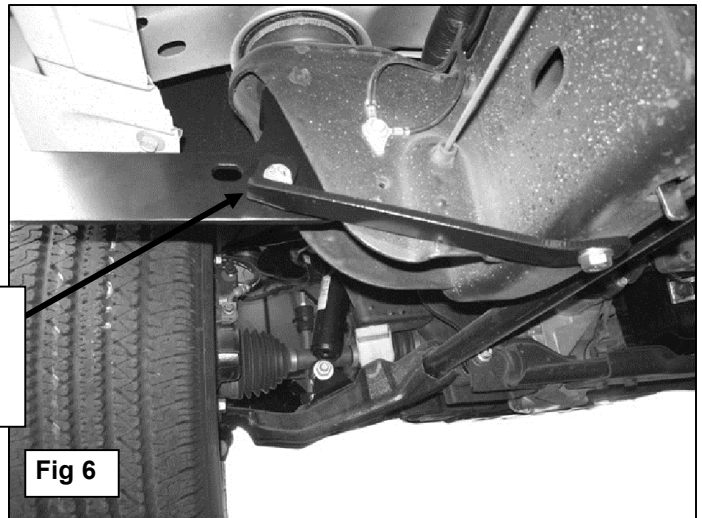

Fig 6
Note that the Front Support Bracket will not reach up to the Mounting Bracket, (Figure 4). Tighten the Support Bracket to the Nut Plate in the frame. Carefully push up on the Support Bracket until it reaches the inside hole in the Mounting Bracket, (Figure 5). Bolt the Support Bracket to the hole in the Mounting Bracket with (1) 10mm x 30mm Hex Bolt, (2) 10mm Flat Washers, (1) 10mm Lock Washer and (1) 10mm Hex Nut, (Figure 6). Do not tighten at this time.